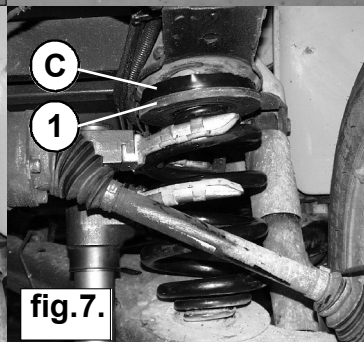

fig.7.
7. Monteer de veer met behulp van veerspanners. (Zie fig. 7.)
7. Fit the original spring with help of spring compressors. See fig. 7